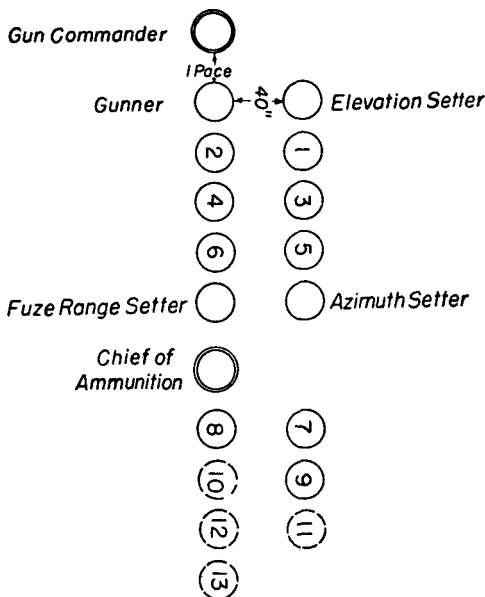

FIGURE 1.—Formation of anti-aircraft artillery gun section, mobile units.
■ 7. FORMATION (fig. 1).—The battery is formed as prescribed in FM 4-120. The gun section assembles in two ranks, with 4 inches between files and 40 inches between ranks. After forming the section, the gun commander takes post in the front rank 1 pace to the right of his section. Mechanics take post in the front rank on the left of their respective sections. At the firing point, at the command FALL IN, the section normally faces the piece.